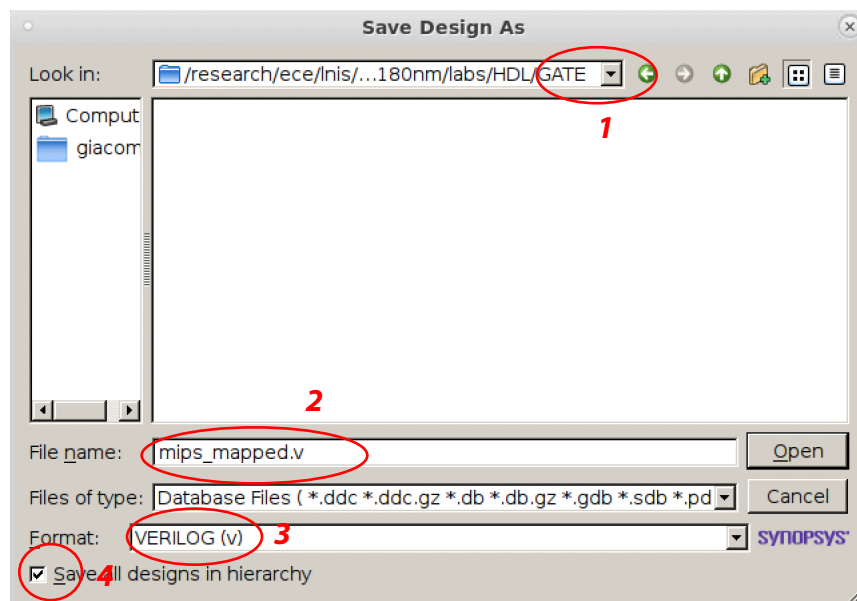

Figure 16: Exporting the verilog gate-level netlist
2. Select the parameters as in Fig. 16. Don't forget to select the appropriate format and the appropriate path.